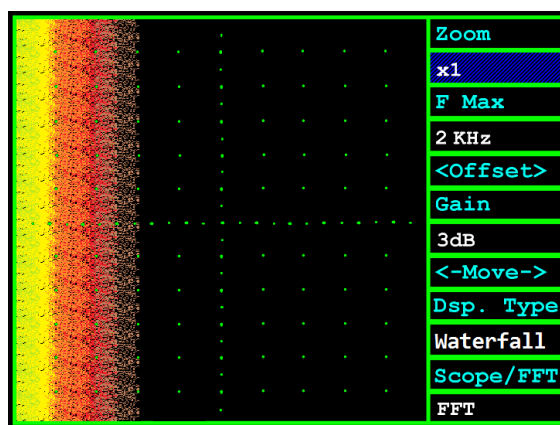

Figure 18: Waterfall display of the Sallen-Key filter output.
9. Compare the output of the filter with the noise input to the image shown in **Figure 18**. This is a 2nd order filter, so the output will have a clearly defined cutoff frequency. Does your circuit produce the result shown in the figure?